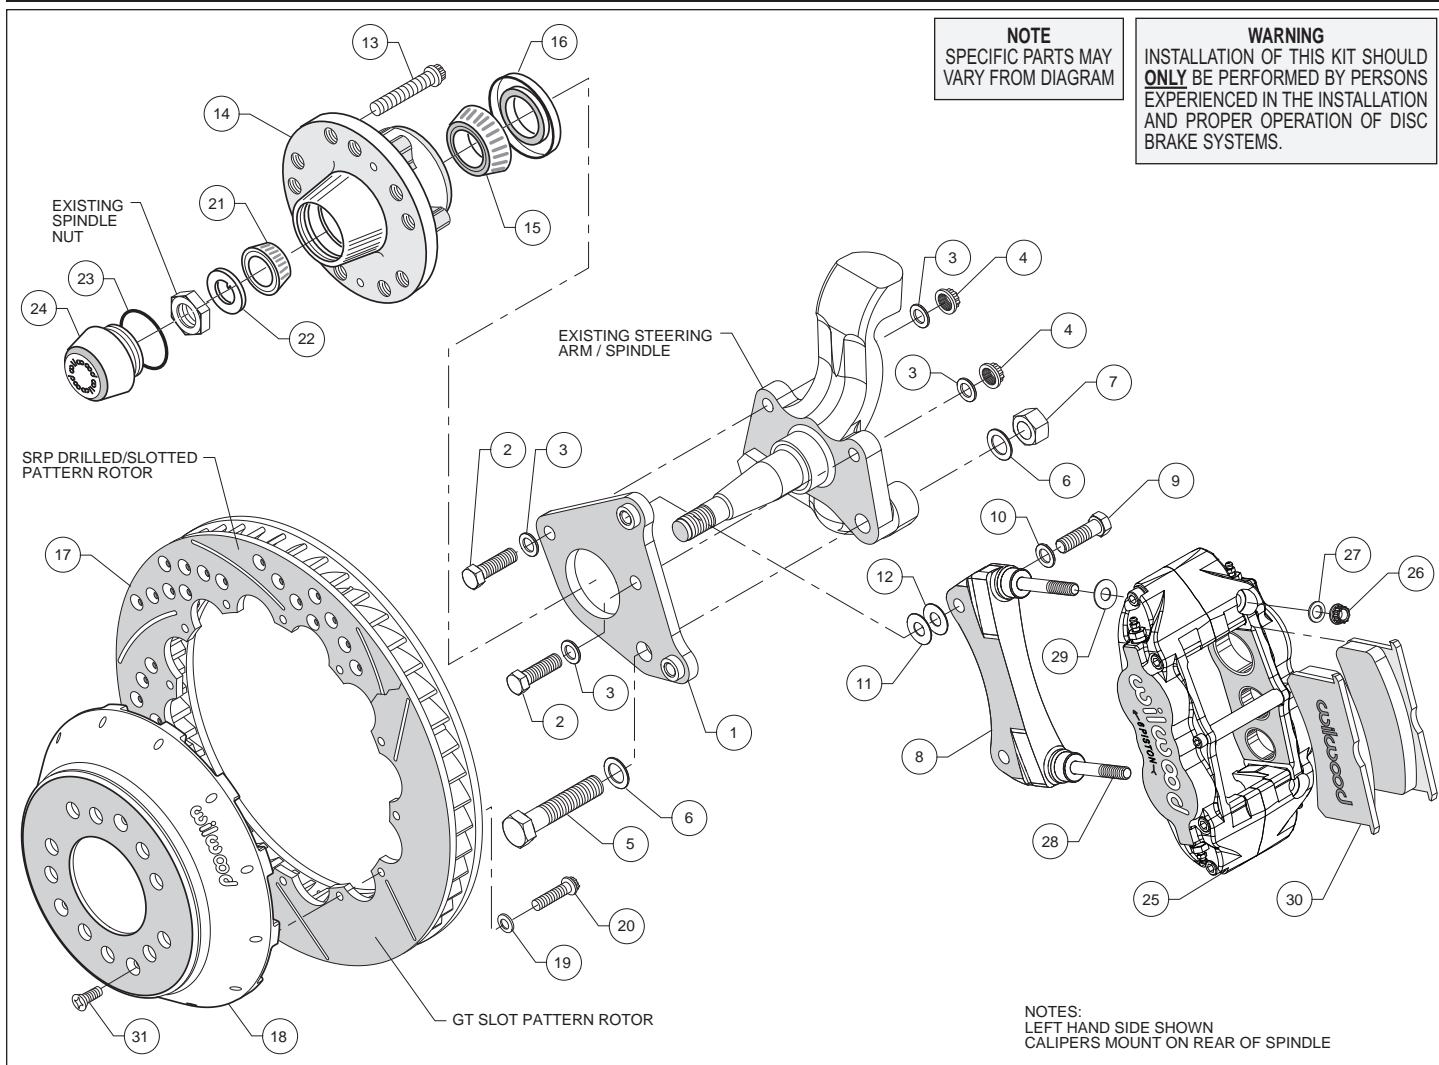
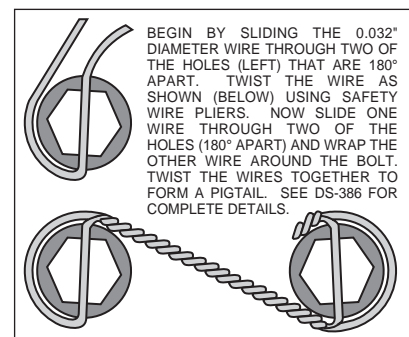

Figure 1. Typical Installation Configuration
Figure 3. Safety Wire Diagram
- Apply red *Loctite*® 271 to bolt threads (2 and 5) before assembly of the flat caliper bracket (1) to backing plate face of spindle. Install bolt (5) and washer (6) through caliper bracket (1), spindle face and the steering arm. Install another washer (6) and lock nut (7) on the rear side. Install two bolts (2) with washer (3) through caliper bracket (1), spindle face and the steering arm. Install another washer (3) and lock nut (4) on the rear side. Torque two lock nuts (4) to 47 ft-lb. Torque lock nut (7) to 140 ft-lb. **NOTE:** Be sure the heads of the caliper bracket (1) insert nuts are facing outward toward the wheel. Reference Figure 1 as necessary.
- The radial caliper mounting bracket assembly (8) should be installed first with clean, dry threads on the mounting bolts. Install the bracket on the inboard side of the flat caliper mounting bracket (1) by sliding bolt (9) through flat washer (10), through the mounting hole in the bracket (8) and into the flat bracket (1) insert nuts. Initially place two shim washers (12) between the two brackets (1 and 8) (see figure 1). The radial bracket (8) must tighten squarely against the inboard side of the flat mounting bracket (1). Later, after the caliper, pad, and rotor alignment has been checked, and any necessary shims have been put in place, the mount bolts should be coated with red *Loctite*® 271 and torqued to 47 ft-lbs.
- Install five new wheel studs (13) into the hub (14). Torque to 77 ft-lb. **NOTE:** There are two five lug patterns in the hub (5 x 4.00 and 5 x 4.50). Make sure of the correct hole pattern for the correct wheel application before installing studs into hub.
- Pack the large inner bearing cone (16) with high temperature disc brake bearing grease (available from your local auto parts store) and install into the backside of the hub (14).
- Install the grease seal (16) by pressing into the backside of the hub (14).
- With the larger I.D. side of the rotor (17) facing away from the hat (18), bolt rotor (17) to hat (18) through the backside of the rotor using washers (19) and bolts (20). Using an alternating sequence, apply red *Loctite*® 271 to the threads and torque bolts to 155 in-lb. For an added measure of security, the bolts may be safety wired using standard 0.032 inch diameter stainless steel safety wire as shown in Figure 3. Please refer to Wilwood's data sheet DS-386 (available at [www.wilwood.com/Pdf/DataSheets/ds386.pdf](http://www.wilwood.com/Pdf/DataSheets/ds386.pdf)) for complete safety wire installation instructions.
- Pack the small outer bearing cone (21) with high temperature disc brake bearing grease. Lightly coat the spindle bearing surfaces with bearing grease. Slide the hub assembly (13, 14, 15 and 16) with outer bearing cone (21) onto the spindle. Secure using spindle washer (22), existing adjusting nut and nut locking device.
- Install the dust cap (24) onto the hub (23). Friction created by the o-ring (23) on the dust cap (24) keeps it from unscrewing. The O.D. of the existing spindle washer may be larger than the I.D. of the dust cap (24) which may allow the washer to contact the dust cap (24). Use the spindle washer (22) supplied with the kit instead of the stock washer.
- **NOTE:** *This kit contains distinct right and left hand calipers that must be mounted in a specific direction, as described below.* Lubricate the caliper mounting studs (28) with lightweight oil. Initially place two .035" thick shims (29) on each stud as shown in Figure 1. Mount the caliper (25) onto the bracket (8) using lock nuts (26) and washers (27), Figure 1. Ensure that the caliper is mounted so that the largest pistons are at the rotor exit end of the caliper, in relation to the direction of rotor rotation. Temporarily tighten the lock nuts and view the rotor through the top opening of the caliper. The rotor should be centered in the caliper. If not, adjust by adding or subtracting shims (11 and/or 12) between the radial bracket and the spindle bracket. Always use the same amount of shims on each of the two mounting bolts.
- Remove the caliper center bridge pad retainer bolt, nut, and tube from the caliper. Slide the brake pads (30) into place. They should install easily without interference. Check that the outside radius of the brake pad is flush with the outside diameter of the rotor face. Add or subtract shims (29) between the caliper and radial mounting bracket to gain the proper alignment. Reinstall the center bridge pad retainer tube, bolt, and locknut. The locknut should be snug without play in the bolt or tube. Be cautious not to over tighten.
- Once all clearances have been checked, remove the wheel, caliper, hat, and rotor from the spindle and hub. Secure the radial caliper mounting bracket (8) to the flat caliper mounting bracket (1) using red *Loctite*® 271. Torque the bolts to 47 ft-lbs. Reinstall the hat and rotor assembly and again use several lug nuts to hold it in place. Reinstall the caliper, torque the caliper nuts (26) to 30 ft-lbs.
- Install three flat head socket screws (31) through the small holes in the hat (18) and torque to 85 **in-lb**.